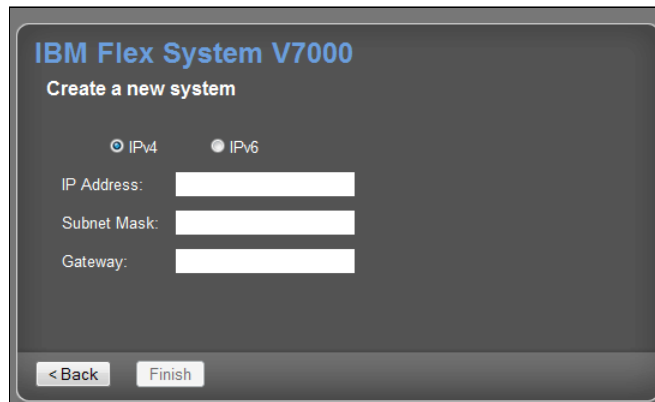

Figure 4-11 Create new Storage Cluster
4. Select whether you are using an IPv4 or IPv6 management IP address and type in the address (you can use DHCP or statically assigned one). The subnet mask and gateway will already have defaults listed, which you can edit, as shown in Figure 4-11.
5. Click **Finish** in Figure 4-11 to set the management IP address for the system. System initialization begins and might take several minutes to complete.
After clicking **Finish** in Figure 4-11 on page 161, on the next panel, enter the system name and a new superuser password. At this point, you have the option to use the setup wizard to configure more settings such as notifications and storage configuration. If you are not ready to complete more configuration steps now, use the configuration tasks in the management GUI to complete the configuration at a later time.